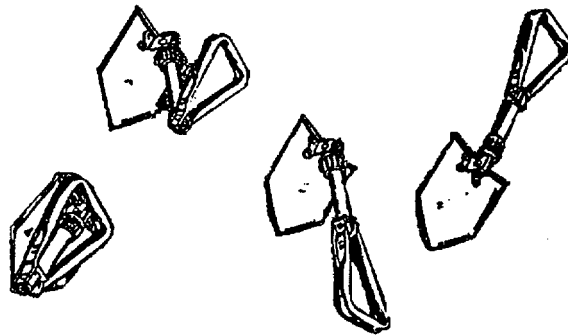

Figure 2-55. Entrenching Tool
- ag. Entrenching Tool. The entrenching tool (See Figure 2-55) has many uses, i.e., to dig holes and to cut small trees and bush roots. To use, unfold the handle and short handle length and turn the securing housing to the right. The entrenching tool can be used with the blade at a 45-degree angle to the handle by not straightening the blade out. Secure the tool in position by twisting the securing housing to the left until tight